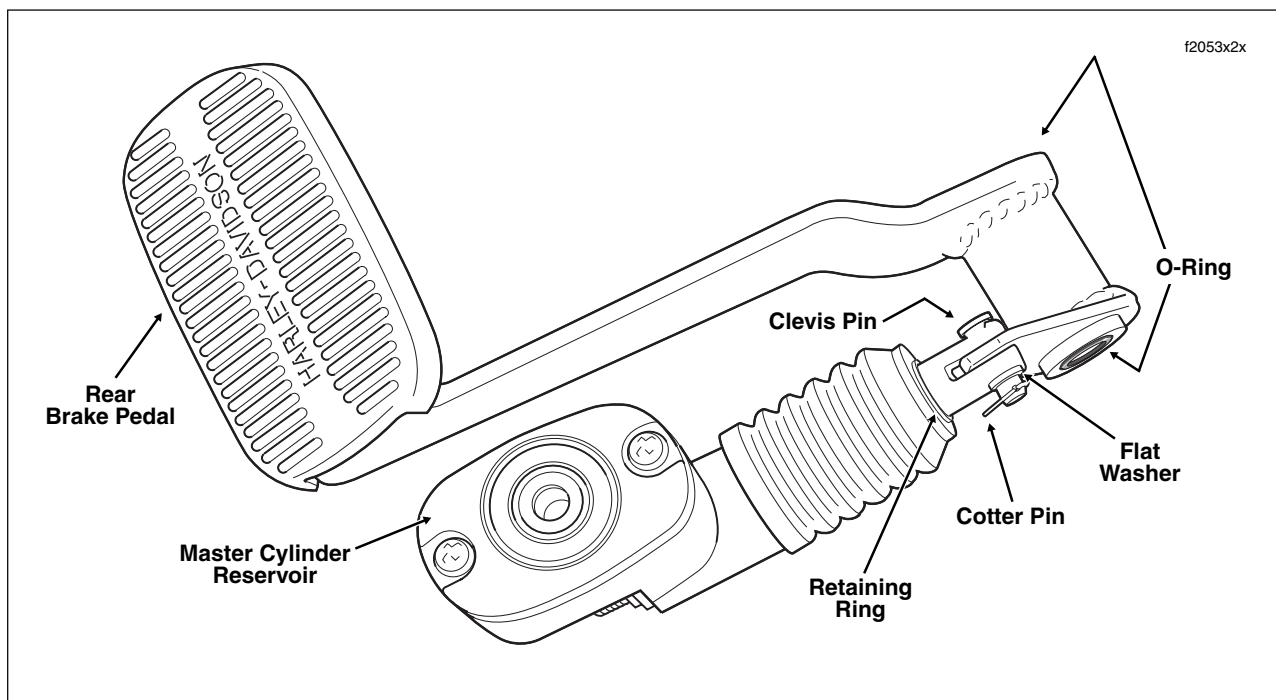

Figure 2-45. Rear Brake Pedal/Master Cylinder Assembly
5. Remove locknut with flat washer to free brake pedal/master cylinder assembly from pedal shaft. Remove assembly from vehicle. Remove and discard O-ring on each side of brake pedal shaft bore. See Figure 2-45.
2. Install master cylinder assembly on brake pedal flange. Supporting assembly in vise, tap in clevis pin using a brass drift. Install flat washer and cotter pin on clevis pin. See Figure 2-45.